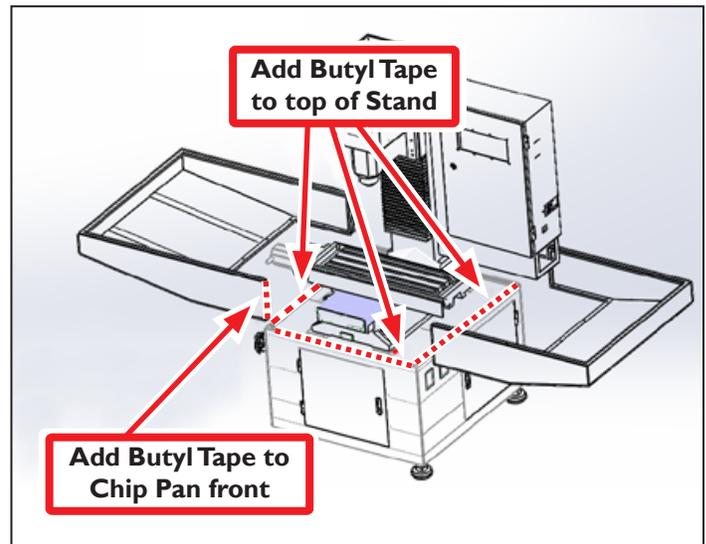

Figure 5
2. Seal joints between top of Stand and Chip Pans with Butyl Tape as indicated in **Figure 5** prior to installing Left Chip Pan and Right Chip Pan.
5. Add a strip of Butyl Tape where chip pans meet in front (see **Figure 5**).